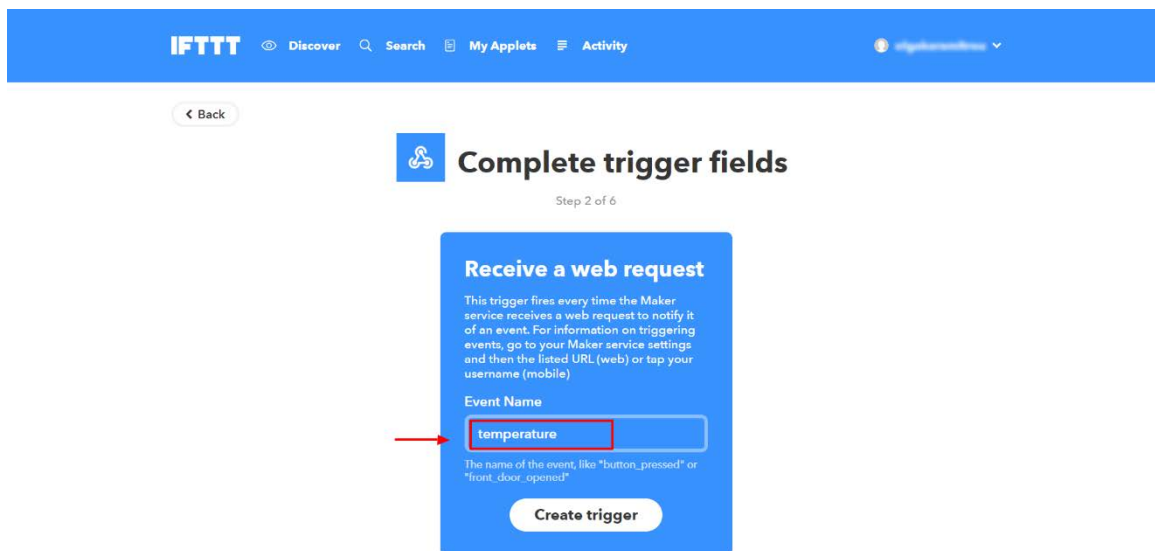

Figure 78: Make an IFTTT Applet, Complete Step 2
- On the 'Complete trigger fields' screen, type in one of the supported event names and click the 'Create trigger' button (Figure 78). Dialog IoT Sensors app sends events at four different routes as it supports the following event names: temperature, humidity, pressure, and button.